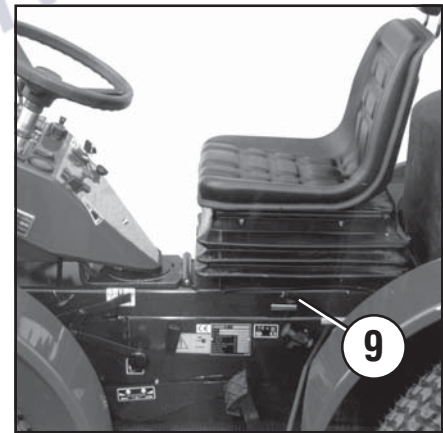

Fig. 41
- move lever (9 Fig. 41) to horizontal position to release the pin that locks the seat;
- lower the seat and move the lever (9 Fig. 41) in vertical position making sure that the pin fits back into locking position;